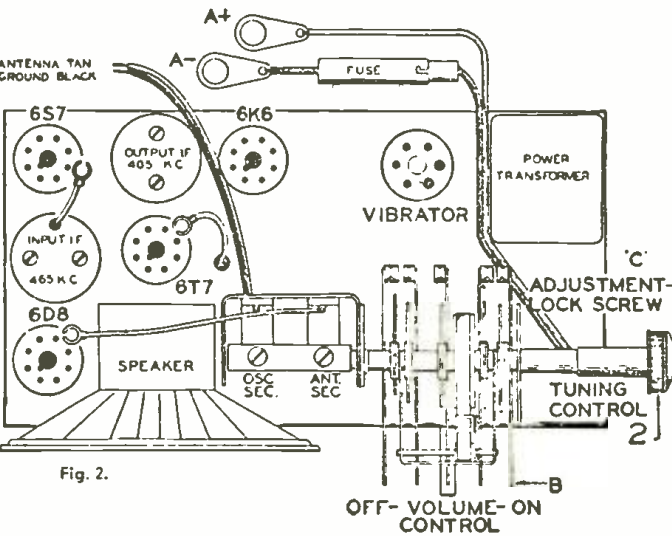

Fig. 2.
- With external oscillator set at 1,720 kilocycles, adjust oscillator trimmer to resonance. This adjustment is on the top of rear section of variable gang condenser. (See Fig. 2.)